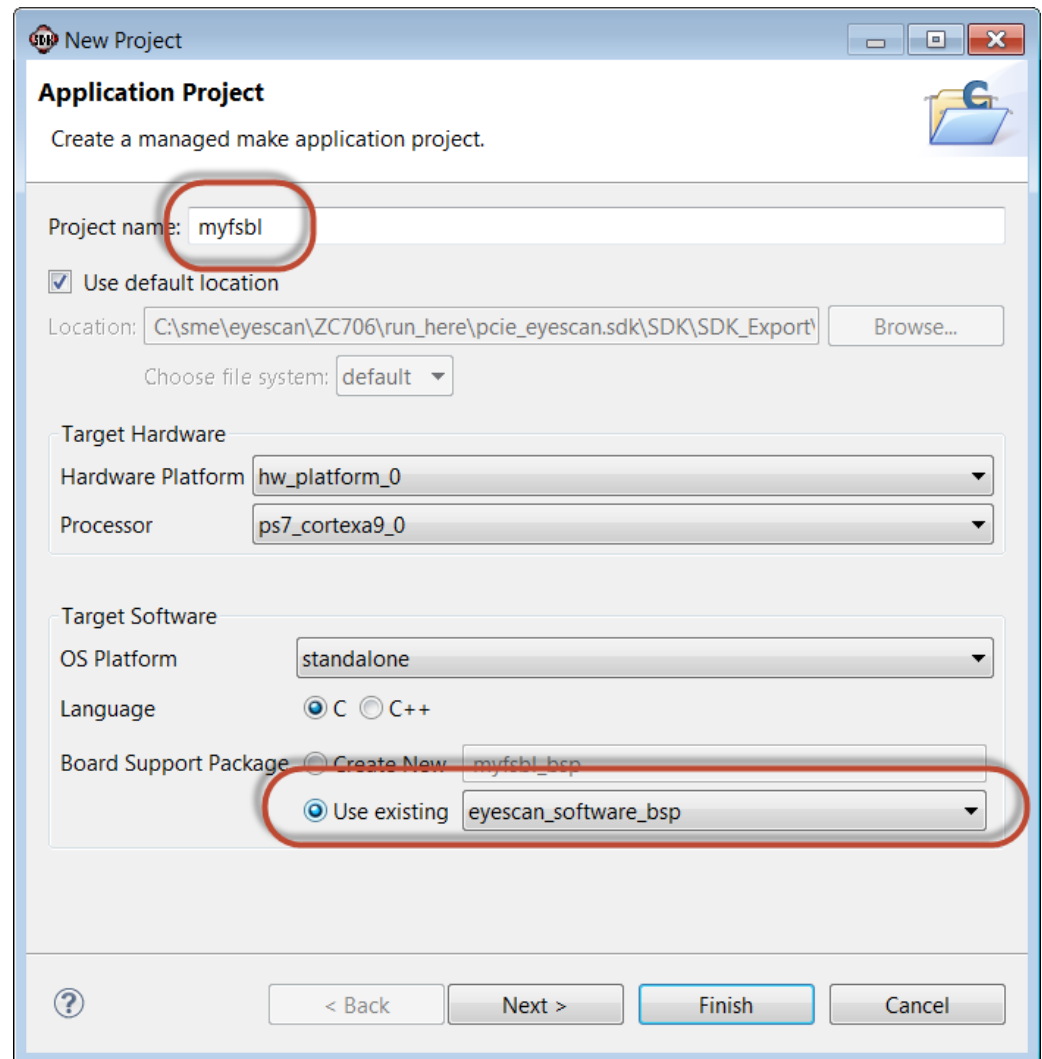

Figure 23: Labeling FSBL Project
16. The name of the FSBL is not important, but this application note names it myfsbl. It is important to use the existing BSP linked to the software application as shown in Figure 23.